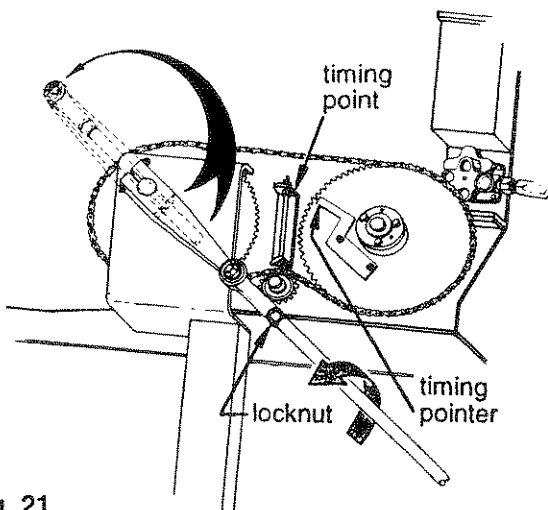

Fig. 21
5. Adjust the needle height by loosening the lock nuts on the needle yoke drive rods, see Fig. 21. Turn the rods to the right or left for the desired setting. Be sure both are adjusted for equal load at top dead center.